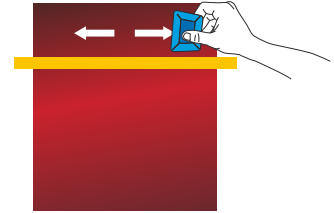

Figure04
- › Start applying the film with a squeegee (previously covered with felt), by forming a 45° angle with the substrate and working from the centre towards the edges. (FIG. 04)